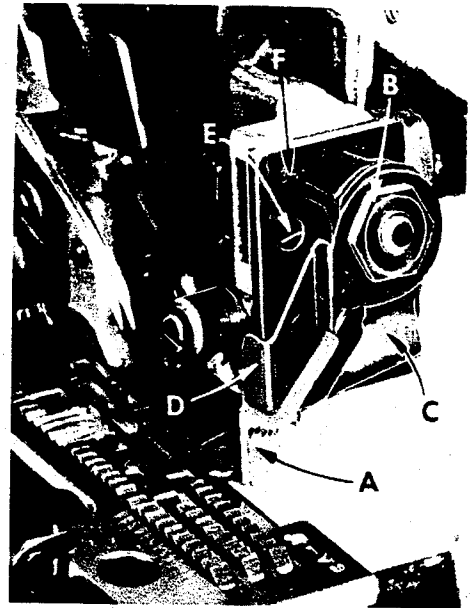

Fig. 13
Replace the upper knife assembly. Clamp upper knife (A, Fig. 13) in position, setting nut (B) to hold clamp (C) in its most clockwise position against upper knife. At the bottom of its stroke, front cutting edge of upper knife should extend not less than $1/64$ inch below cutting edge of lower knife. The chain guard (D) should be set down against the upper knife and back from the cutting edge.